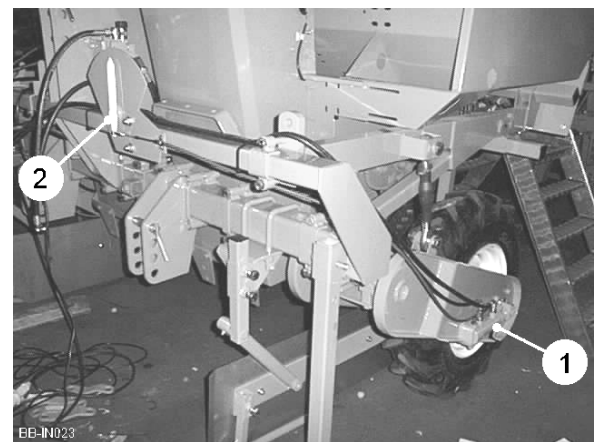

Fig 29
An optional steerable axle kit can be fitted to assist in controlling the planter on hillsides etc. The kit consists of a steerable LH wheel actuated by a hydraulic ram (item 1, figure 29). The ram is connected to a double acting spool valve on the tractor. A wheel position indicator (item 2, figure 29) is fitted to assist the operator.